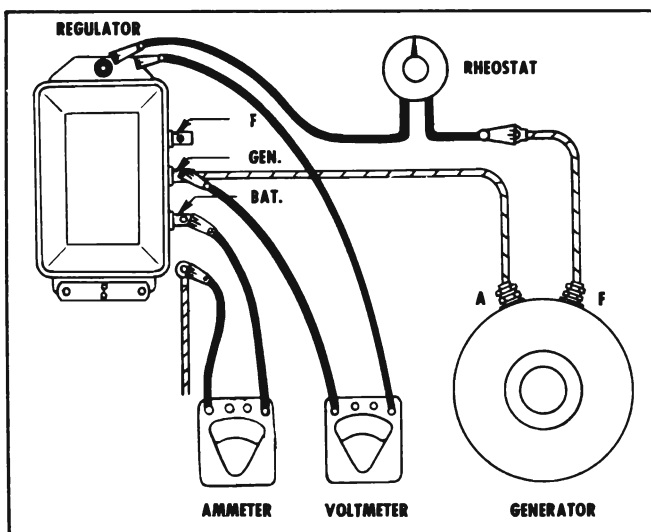

Figure 10-14—Testing Cutout Relay
4. Turn voltmeter selector switch to position for 12 volt system. Then connect voltmeter red lead to "Gen" terminal of regulator and voltmeter black lead to ground on base plate of regulator. See Figure 10-14.